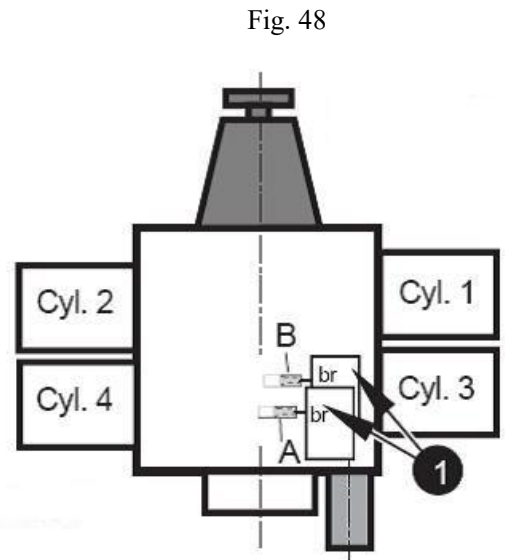

Fig. 48
**CAUTION:** The connections have to be completed by the aircraft manufacturer in accordance to effective certification and wiring diagram (Fig. 48).The electromagnetic compatibility (EMC) and electromagnetic interference (EMI) is greatly affected by the wiring and has to be checked for each installation.
See Fig. 48